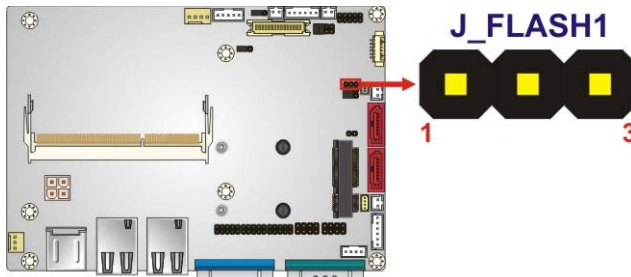

Figure 4-5: Flash Descriptor Security Override Jumper Location
- Jumper Location:** See Figure 4-5